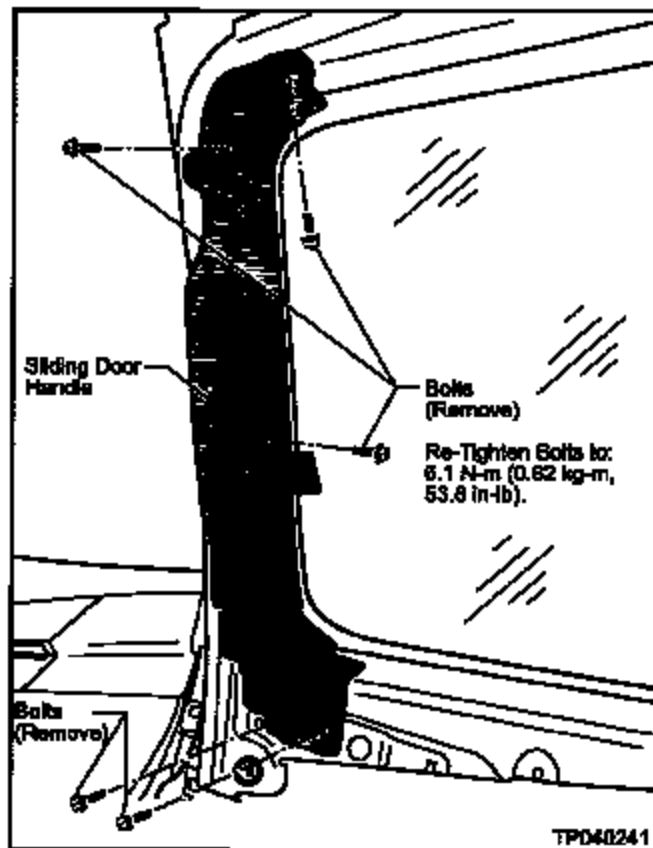

Figure J20
19. Remove five Bolts that secure the Sliding Door Handle (see Figure J20).